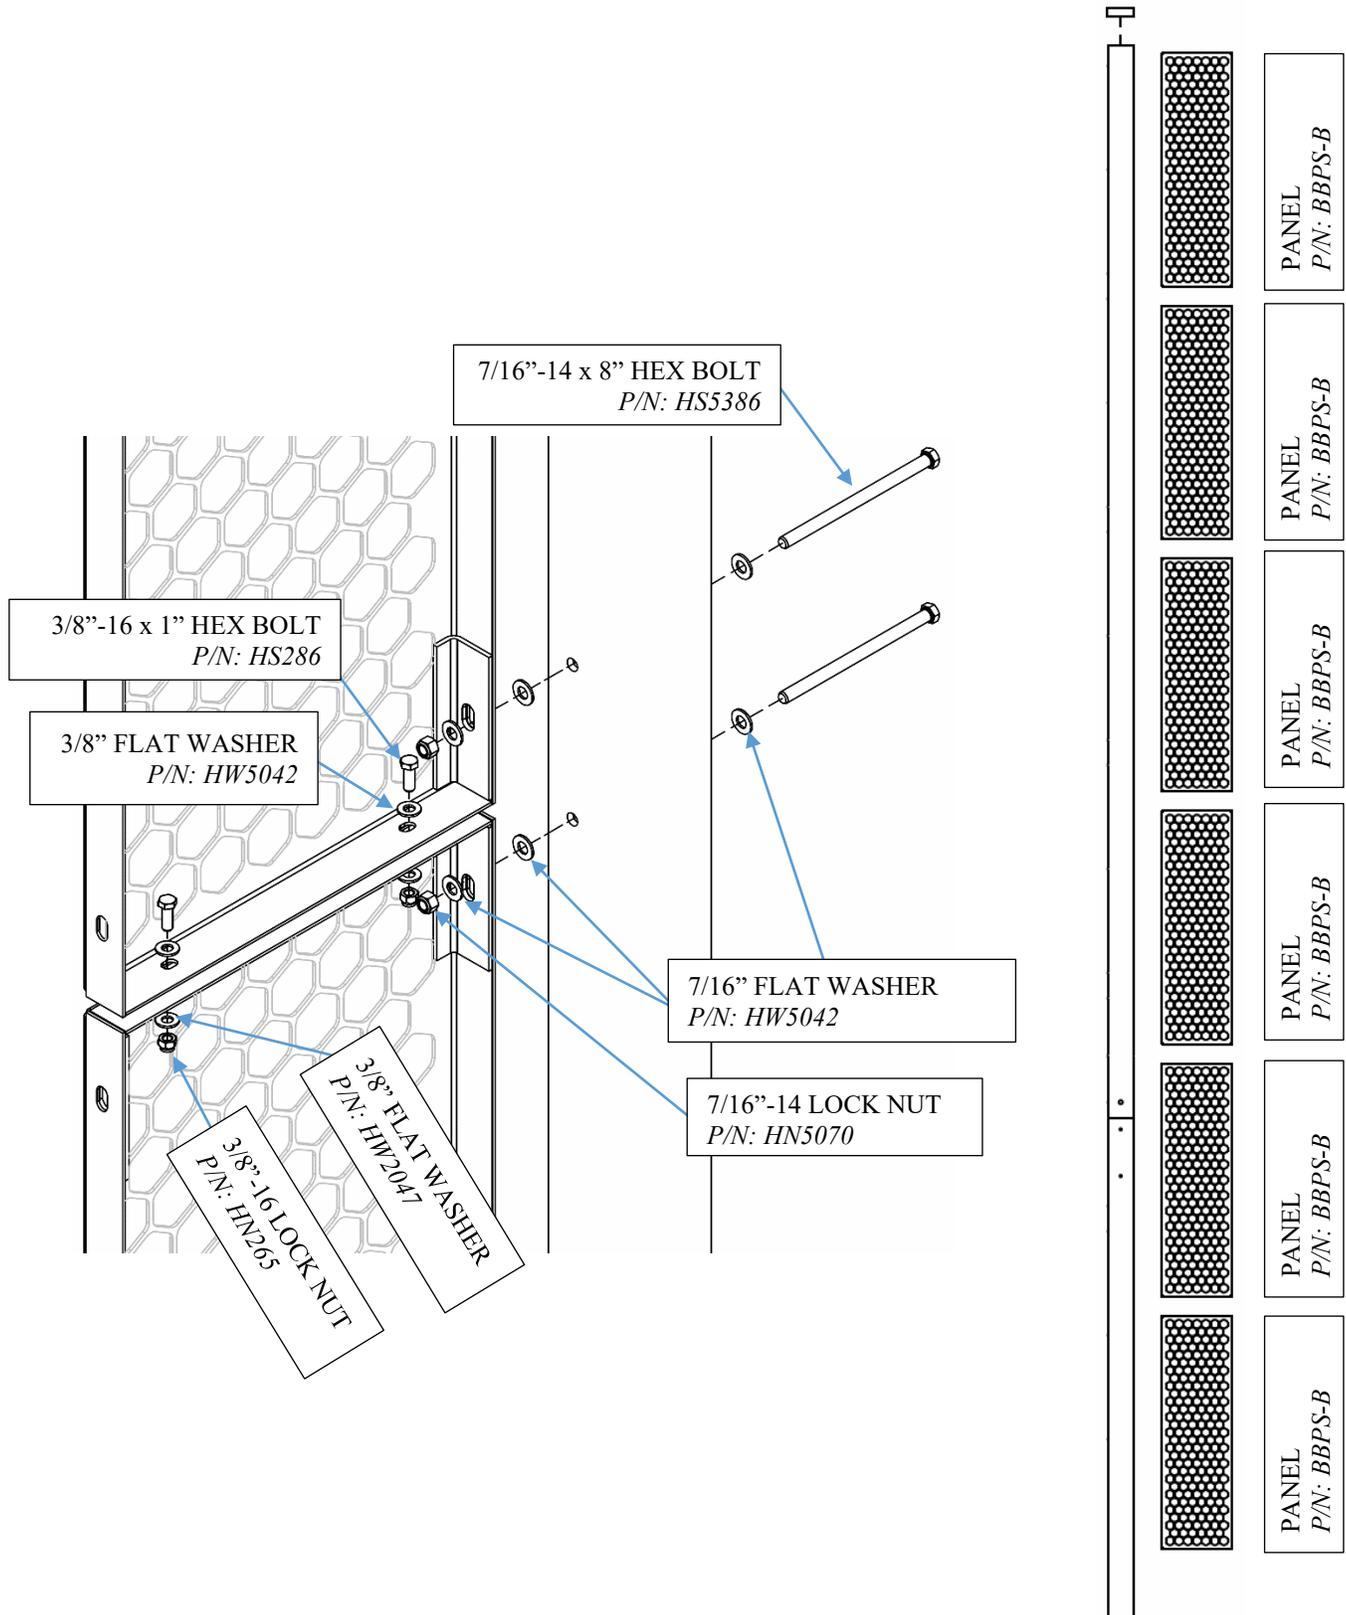
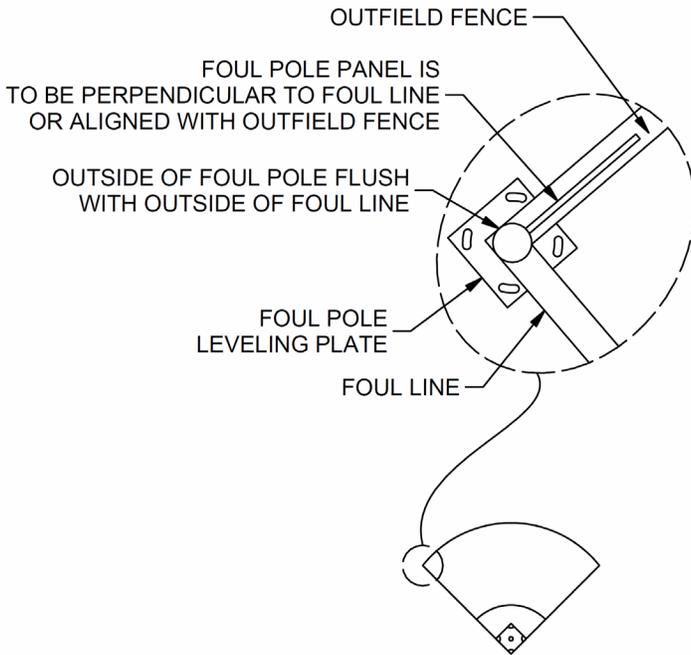

FIGURE: 5
FIGURE: 1
1. Attach all the wing panels per figure 5. Orient the panels so the front side is facing the field. (Note image shown is from the back side of panels.)
2. Rotate the pole to position the panels perpendicular to the foul line, as shown in figure 1. If needed, rotate the top pole so the wing panels attaching to the bottom pole are in line with the top. Install the bottom two panels as shown in figure 5.